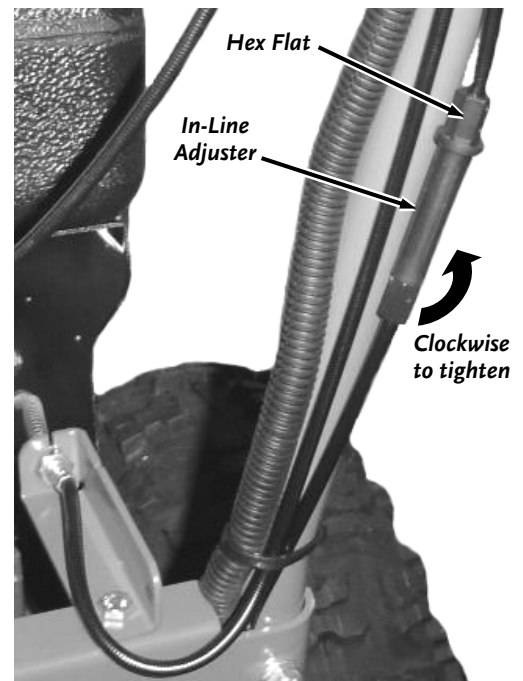

Figure 26a
1. Locate the Differential Lock In/Out Cable along the right Handlebar. There is an In-Line Adjuster to change the length of the Cable (**Figure 26a**).
3. You can take the slack out of the cable by holding the Hex Flat Section at the top of the In-Line Adjuster and rotating the body of the In-Line Adjuster in the clockwise direction as you look up the Cable toward the Control Panel. If the Cable is too tight, you can loosen the Cable by twisting the adjuster in the opposite direction (**Figure 26a**).